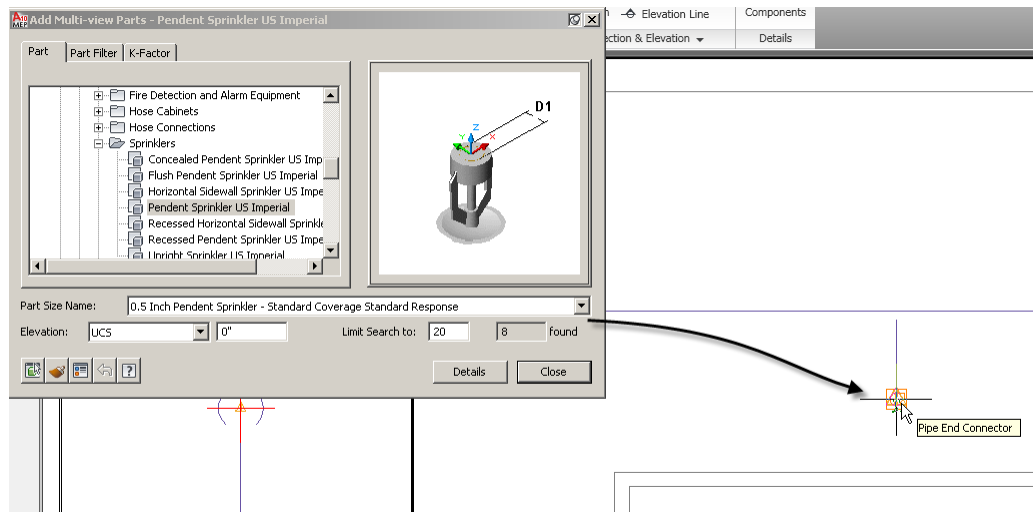

Figure 6.85
23. In the Left viewport, place the part at the end of the vertical pipe you just drew. Press ENTER to accept the default rotation (see Figure 6.85).